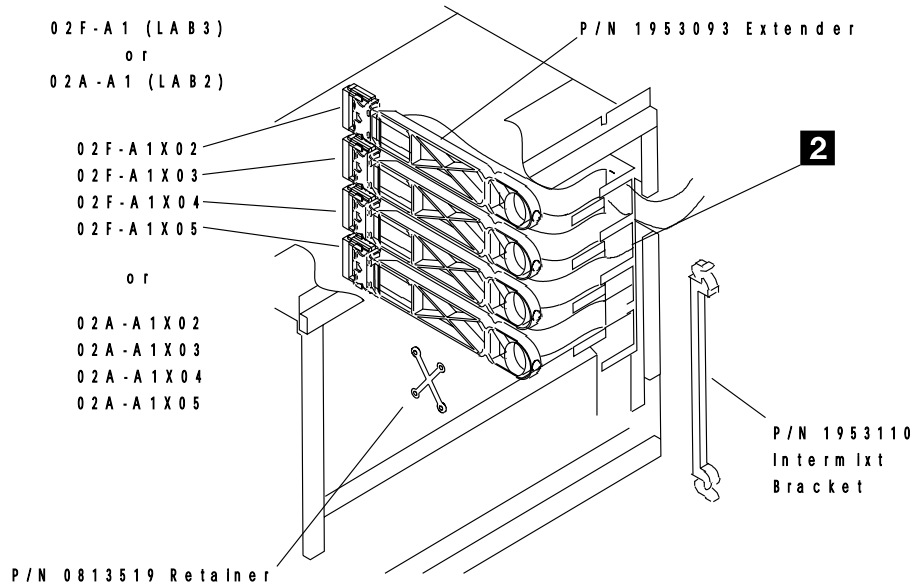

Figure 4-24. Line Adapter IOC Bus Cable Routing in the 3746-A11
Cables run across the bottom and in the right front of the 02F-A1 board or 02A-A1 if no LAB3, see Figure 4-24 on page 4-25. Fold the cables according to the **black** fold marks.
- Step 5. \_\_\_\_ Plug the IOC cables **2** into their respective sockets 02F-A1 X02 to X05 or 02A-A1 X02 to X05 if no LAB3. Secure the cable extenders using an intermix bracket (PN 1953110), and secure them in the raceway using cross retainers (PN 0813519) (See Figure 4-24 on page 4-25.)